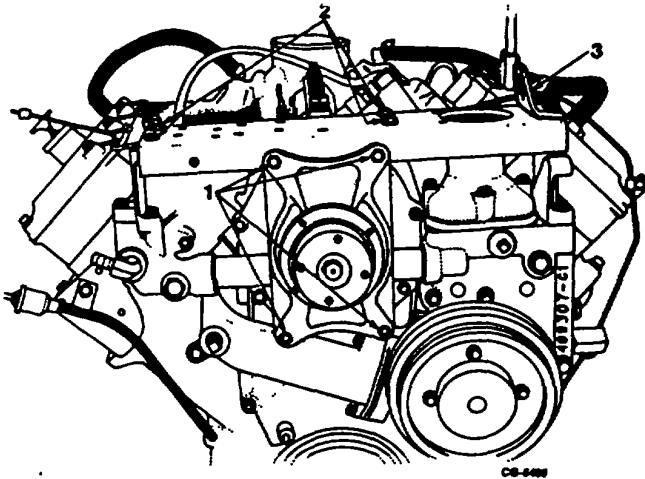

Figure 150. Removing Fan Hub Assembly
- 6. Remove four fan hub assembly mounting bolts and remove assembly (Figure 150).
- 7. Remove accessory mounting channel by removing the remaining six bolts along with the engine lifting eye (Figure 150).